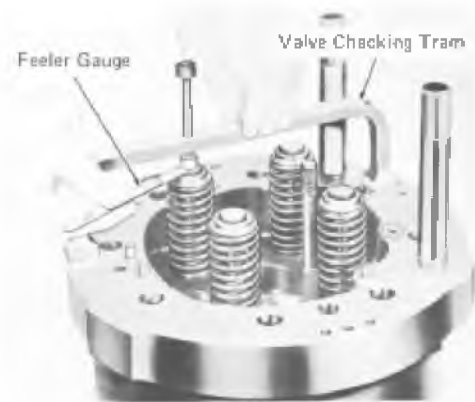

Fig. 2-21 - Checking Height Of Valve Stems
2. Apply tram firmly on cylinder head, Fig. 2-21.